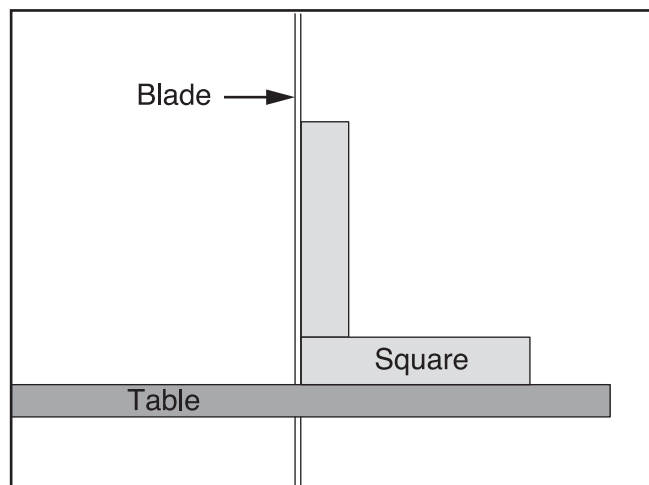

Figure 67. Squaring table to blade.
3. Loosen guide post lock knob, raise guide post, then place a machinist's square on table next to side of blade, as illustrated in **Figure 67**.